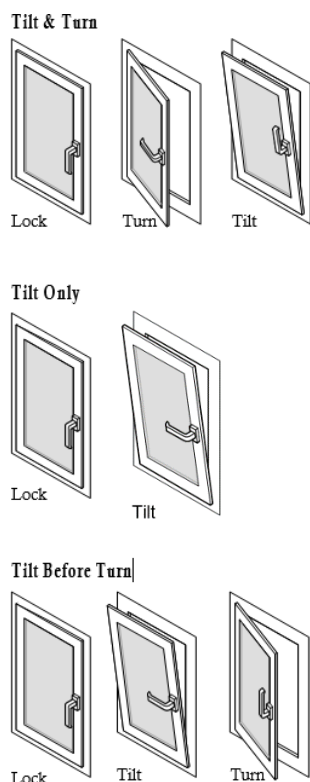

Figure 2-1. Handle Positions
- 3.1 Rotate the Euro-Handle to the Turn position. Partially open the sash. See fig. 2-1.